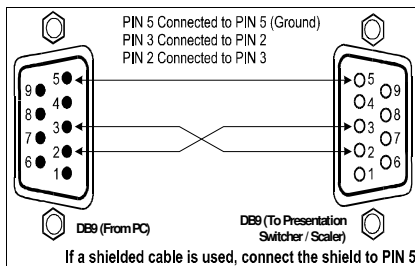

Figure 6: Connecting the PC
- Connect the RS-232 DB9 port on your PC to the RS-232 DB9 rear panel port on the **VP-727** unit, forming a cross-connection1, as Figure 6 illustrates